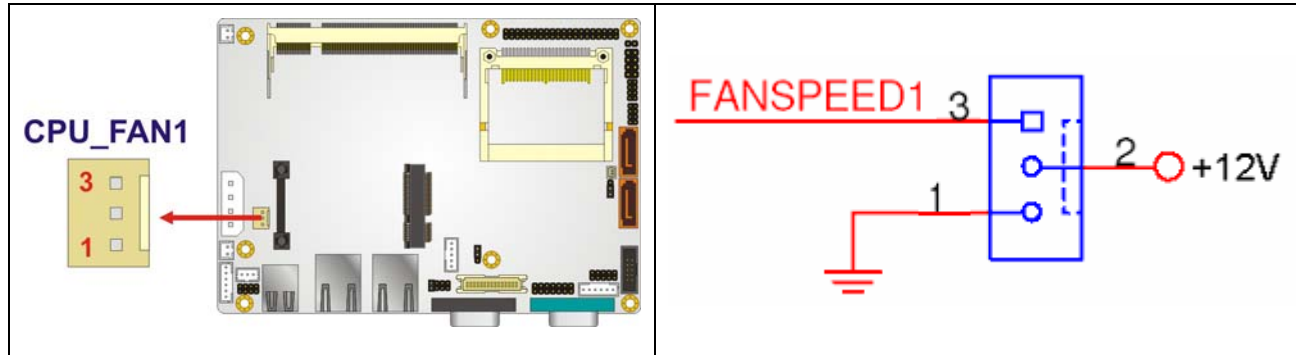

Figure 4-8: +12V Fan Connector Location
- CN Location:** See Figure 4-8